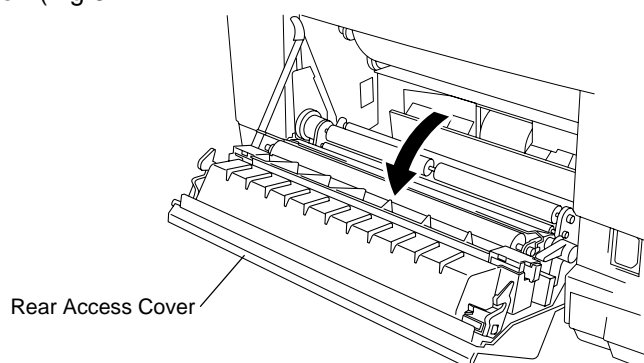

Fig.6-21
- 2) Open the rear access cover. (Fig.6-21)